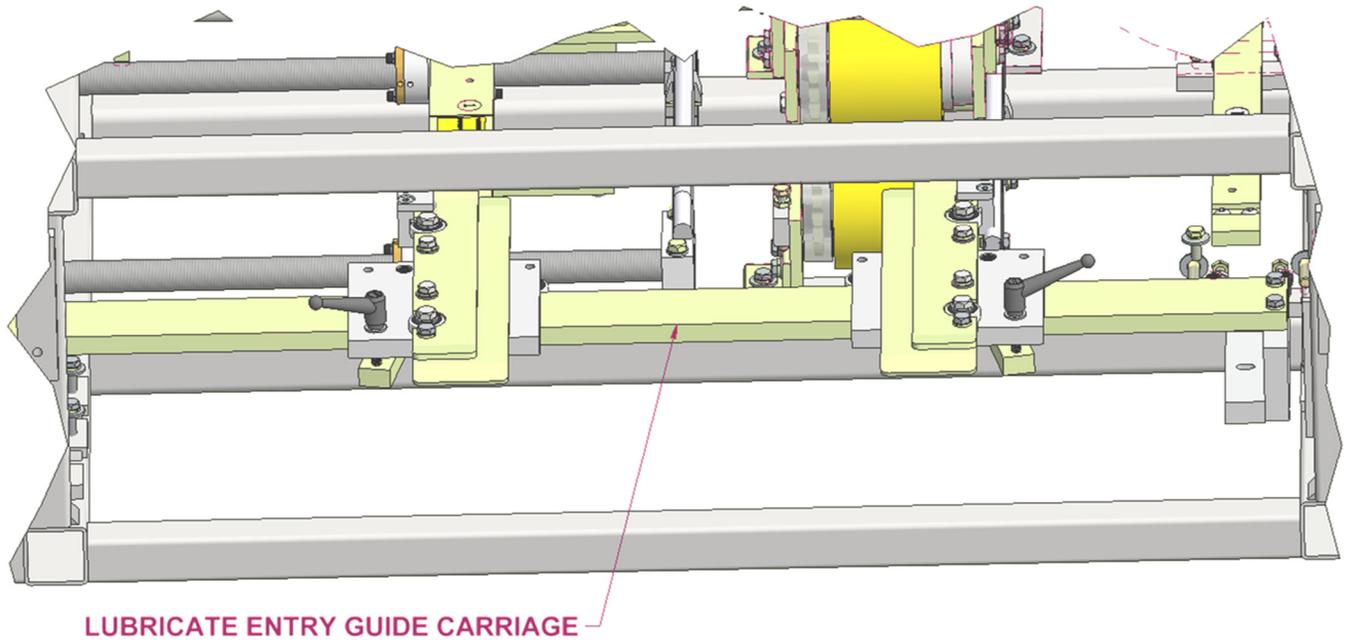

Figure 3: Entry Guide
8. Keep Entry Guide Carriage (Figure 3 on page 7) clean and lubricate as needed with Spray Lube.